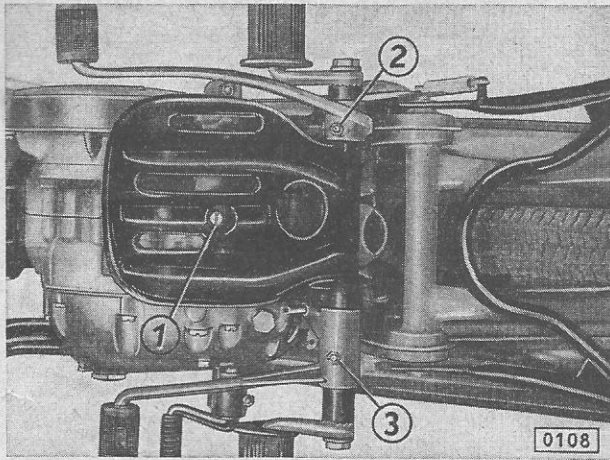

Fig. 8: Drain oil:
3. Remove oil drain plug (Fig. 8/1).
5. Lubricate the gear-shifting control lever (Fig. 8/2, 8/3) bearing as well as the foot brake control lever bearing by means of a grease gun (push once or twice).